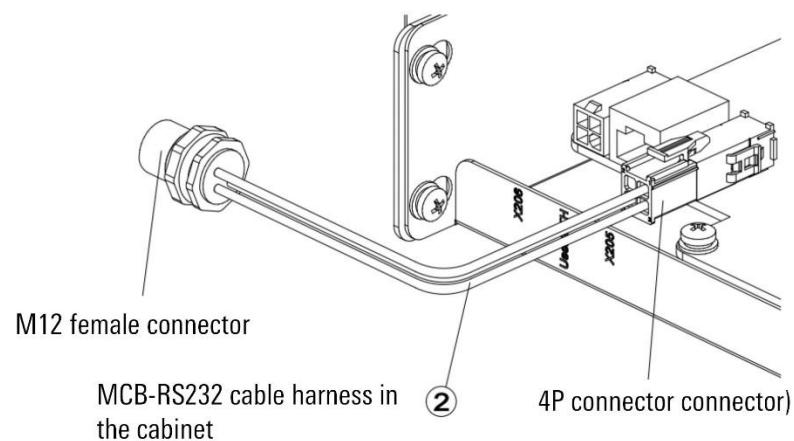

Figure 12-6 Diagram of the X205 serial port connected to MCB
Step3. Connect one end of MCB-RS232 cable harness in the cabinet (4P connector connector) to the X205 serial port of MCB, and the other end to the M12 female connector, and arrange the cables in the cabinet reasonably, refer to Figure 12-6.